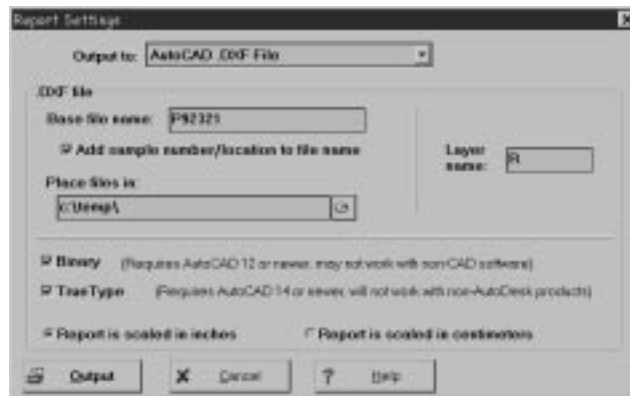

Figure 5.1.2 -- AutoCAD File Export Dialog
- ⇒ **Add sample number/location to file name** -- Without this option, R-VALUE's .DXF file names will be whatever you've selected as the **Base file name**, plus something like " page 1" at the end. Using Figure 5.1.2 as an example, if the **Add sample number/location to file name** option wasn't selected, the first chart report exported would be named **P92321 page 1.DXF**, the second chart report exported would be named **P92321 page 2.DXF** and on. A client looking at a list of submitted .DXF files would have no way of telling which .DXF file corresponds to which tested sample.